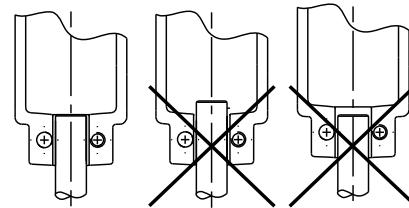

Fig. 3 Fitting coupling
15. Cross-tighten screws (pos. 28).
16. Fit coupling (pos. 8), according to figs 3 and 4, and tighten screws (pos. 9).